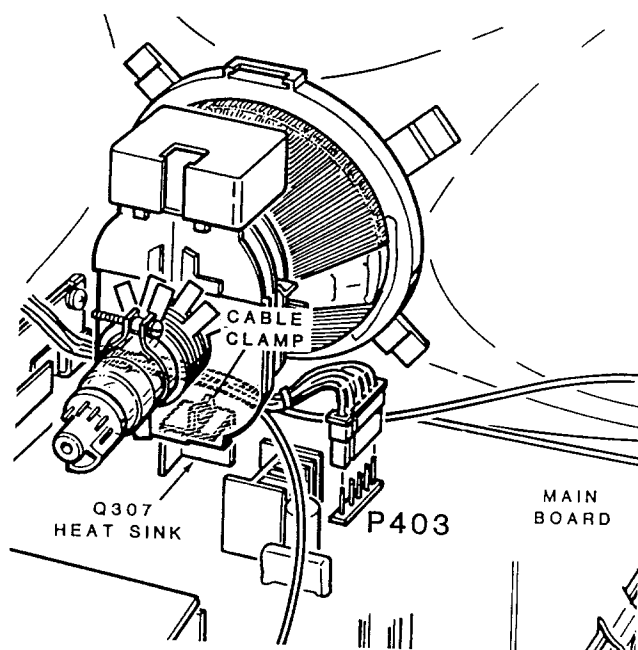

Figure 3-26. Disconnecting P403
3. Disconnect connector P403 (5-pin, 5-wire) from the main board, as shown in Figure 3-26.
4. Release the cabling from the clamp mounted on heat sink Q307 on the main board (see Figure 3-26).